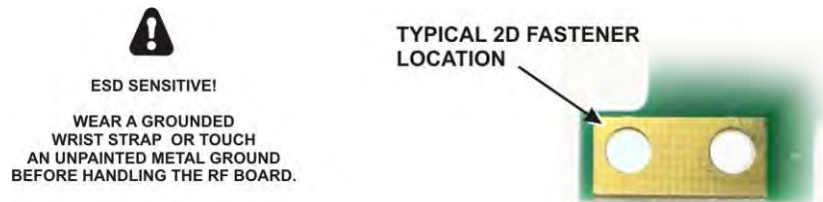
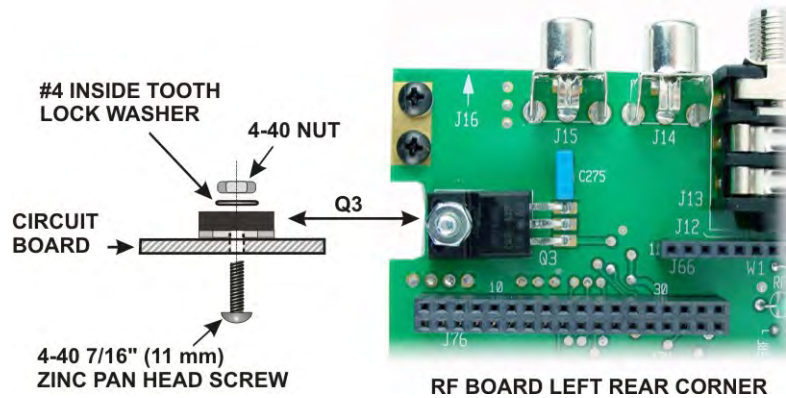
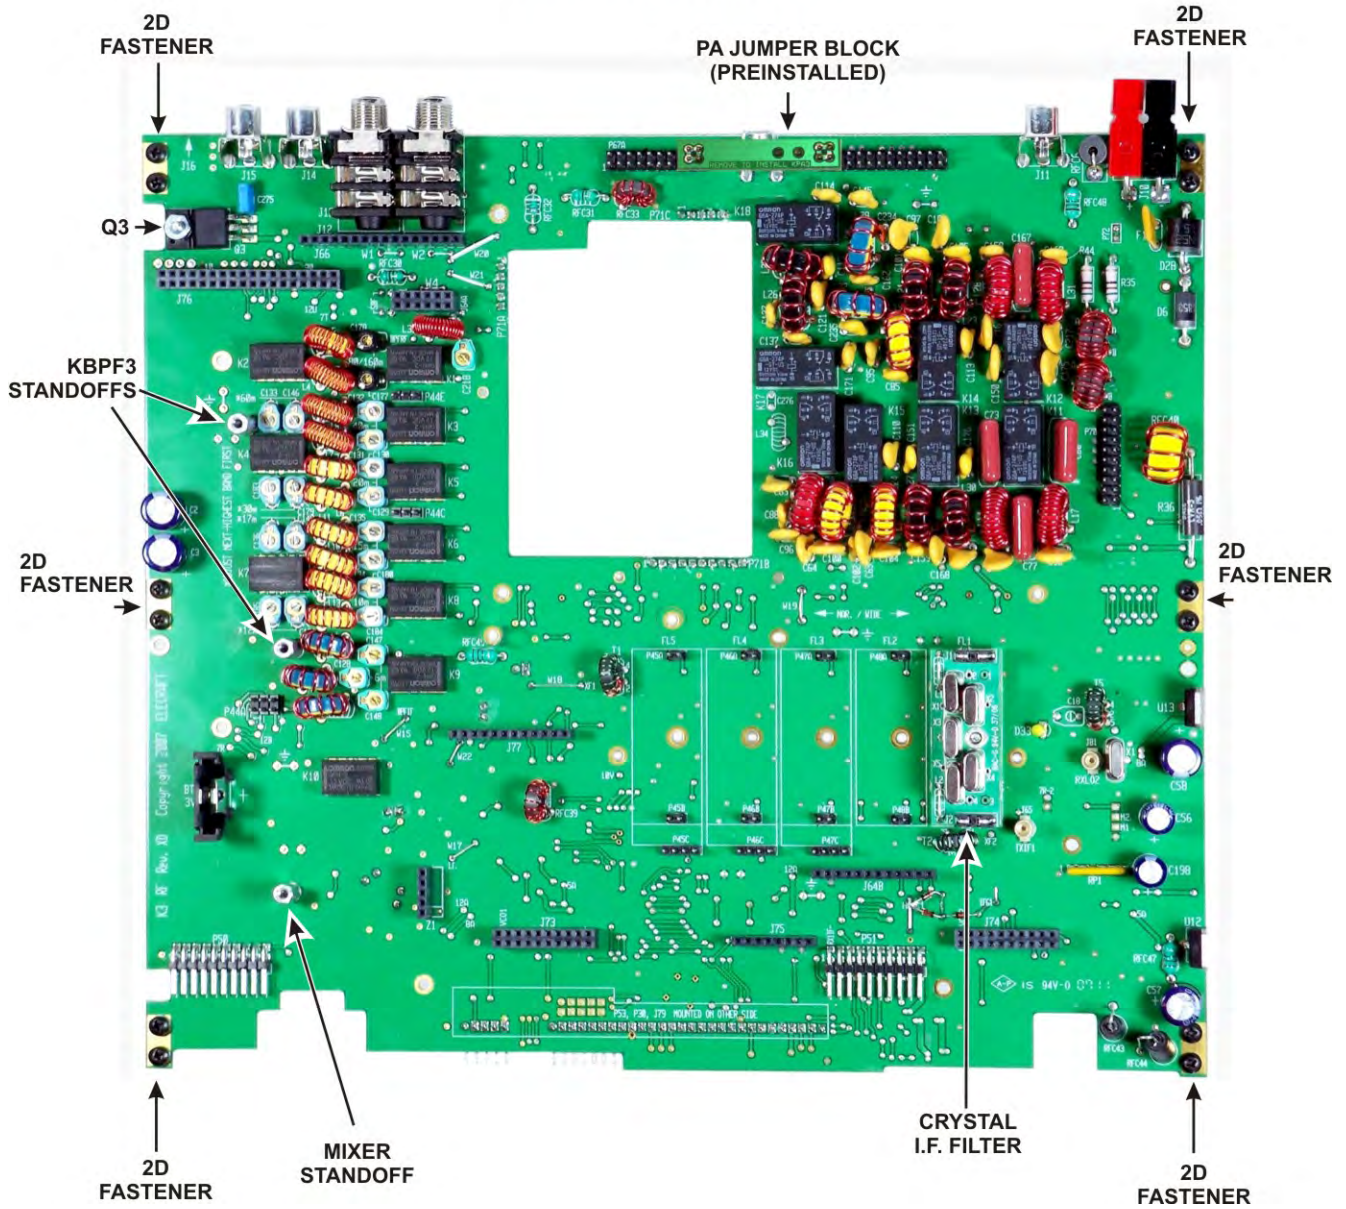

Figure 5. 2D Fastener Location on RF Board.
Figure 9. Installing Q3 Hardware.
Figure 11. RF Board Partially Assembled.
Remove the RF board from its anti-static packaging. The top side of the board is the side with the toroid inductors and relays along with other components, including several connectors along one edge. The edge with the connectors is the back edge of the board, while the front edge has notches cut in it that will fit around front panel controls. Locate the six rectangular bare copper pads for the 2D fasteners (see Figure 5). There is one in each corner of the board and one in the center of each side (see Figure 11 on page 16).
□ Install a 4-40 3/8" (9.5 mm) standoff on the RF board near connector Z1 as shown in below and Figure 11 on page 16. This standoff will support the mixer to be installed later. Install the standoff using *three* lock washers as shown below with two of the lock washers between the standoff and the RF board.
Install hardware to attach Q3 to the RF board near the rear left corner as shown in Figure 9 and Figure 11 on page 16.